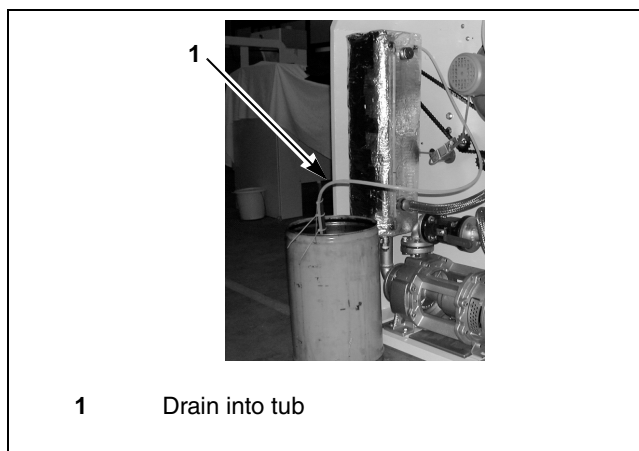

Figure 9
3. Place one end of the teflon hose into a tub. Refer to *Figure 9*.